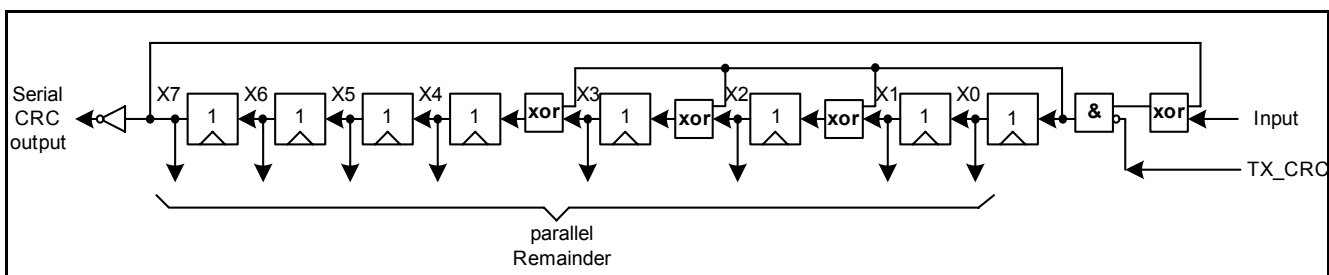

Figure 20 Fast CRC Polynomial Division Circuit
- Generator-Polynomial: $X^8+X^4+X^3+X^2+1$, but for the CRC generation the fast-CRC generation circuit is used (see Figure 20)